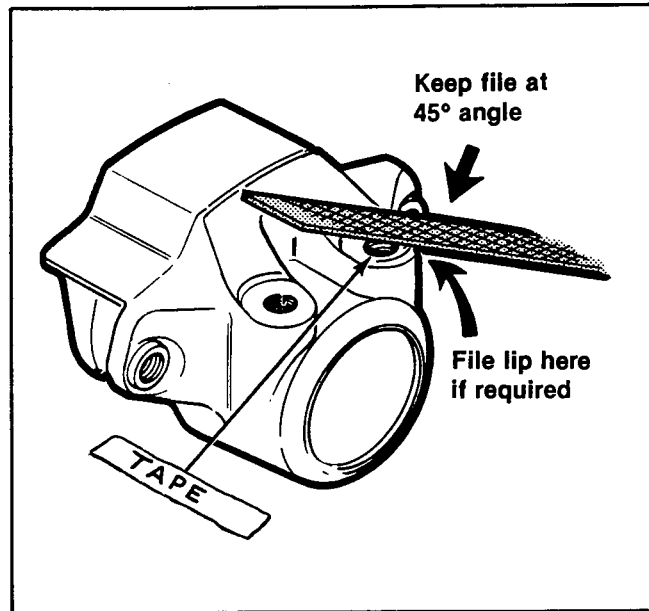

Figure 3. Removing Spot Face Lip
8. See Figure 3. With a file remove that portion of the lip that contacts the banjo fitting.